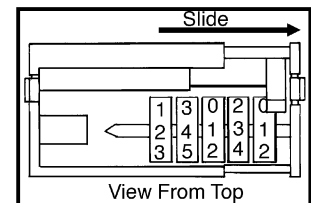

Figure 5
10. With the window facing you, pry the right side out of the frame **carefully** so that the gears and counters do not fall off (Fig 5).